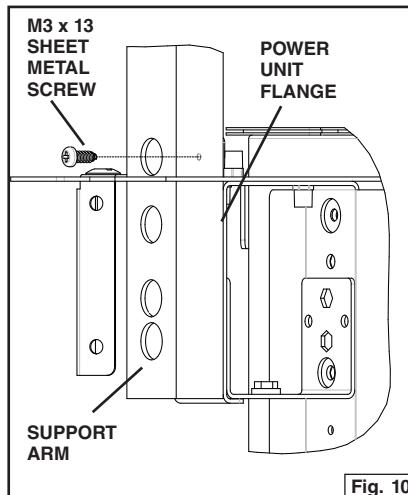

Fig. 10
2. Attach the arm to the power unit flange with (1) M3 x 13mm sheet metal screw. Fig. 10.